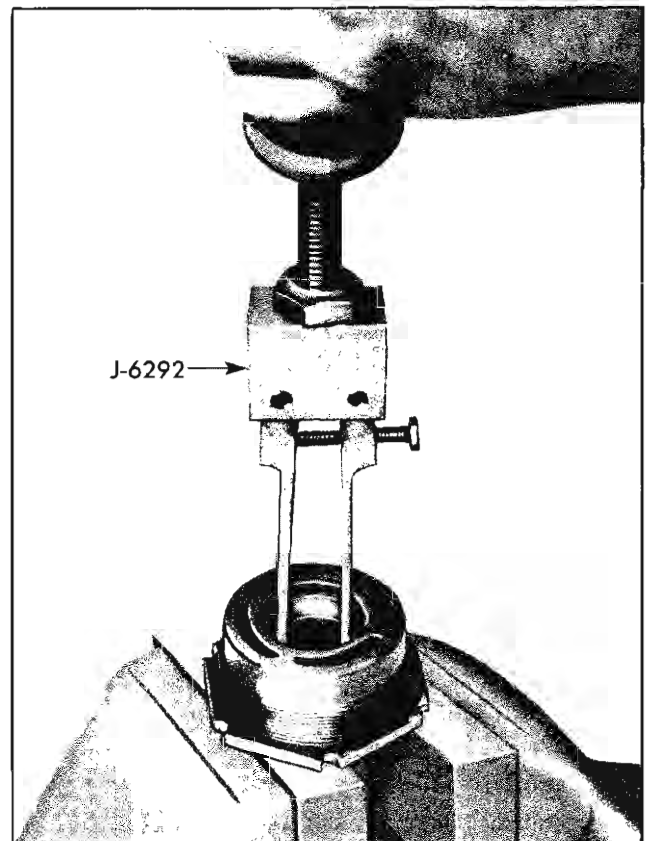

Fig. 9-21 Removing Lower Bearing Cup
3. Place worm bearing adjuster in vise and remove lower bearing cup with Tool J-6292 (Fig. 9-21).